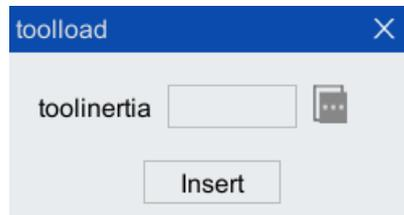

Figure 5-42 "Toolload" instruction configuration interface
Step1. Click "Insert Cmd> auxiliary instruction> toolload" option in the toolbar of the program editor to pop up "toolload" instruction interface, as shown in Figure 5-42.